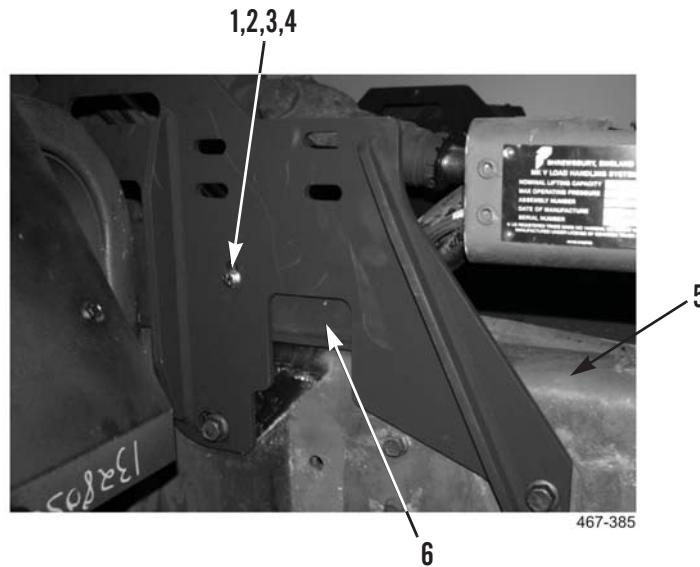

Figure 14. Spacer Installation.
3. Install spacer (Figure 14, Item 6), two washers (Figure 14, Item 2), bolts (Figure 14, Item 1), washers (Figure 14, Item 3), and nuts (Figure 14, Item 4) on frame (Figure 14, Item 5) of vehicle.